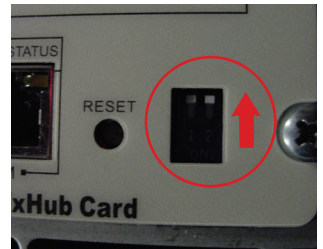

Figure 1. Verify DIP Switches
1. Verify that both DIP switches on the card are set to the **0** (off) position (see Figure 1).